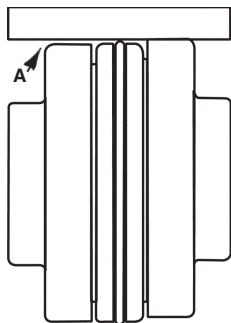

Figure 2-4
The standard coupling supplied by MTH Pumps has an elastomer member between two internal serrated flanges. They have smooth outsides of equal diameter. These surfaces are used for alignment procedures. To check the PARALLEL alignment: (Refer to Figure 2-4)
2. Measure the maximum offset (A), Figure 2-4, at various points around the periphery of the coupling. DO NOT rotate the coupling.